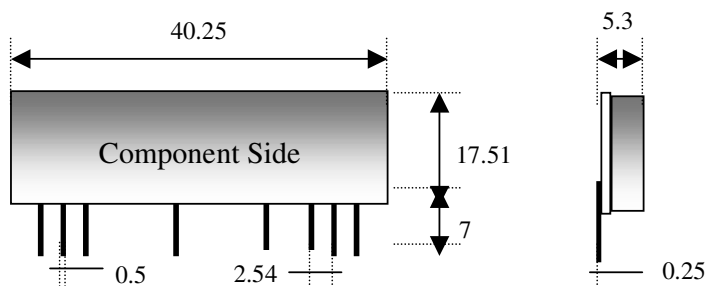

Fig. 19
- **TEST_RX** = Test receiver which provides a DC voltage as output proportional to the strength of the received field (RSSI). In this case it is possible to use the Super-het RSSI Receiver **RX-AM4SF** by Aurel, as illustrated in fig.19: